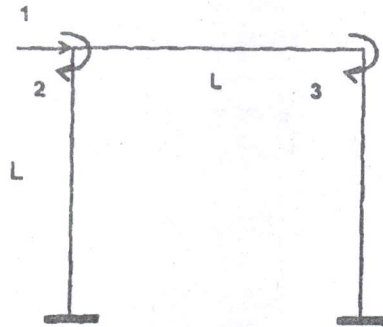

Fig. 4
14. Generate the stiffness matrix for the rigid jointed frame with respect to the coordinates shown in figure 4. (16)